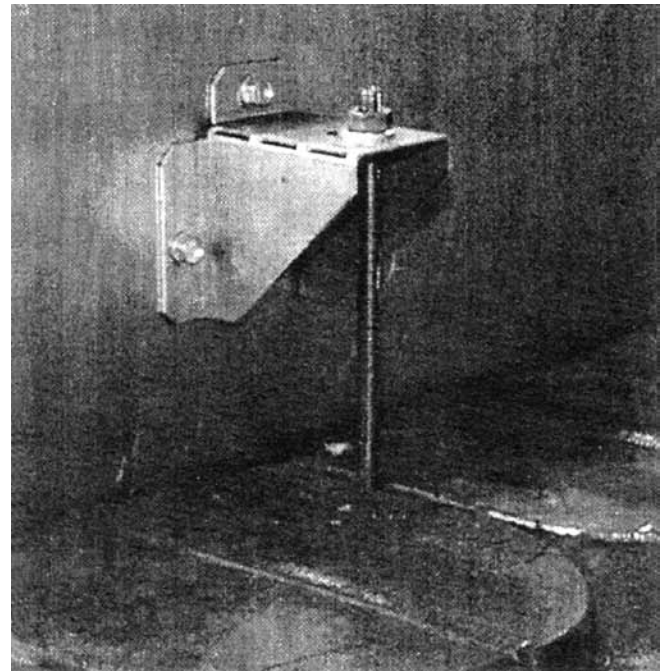

Figure 18: Right Side Canopy Intermediate Bracket
- d. Secure canopy right side bracket(s) with 1/4 - 20 x 5" lg. carriage bolts. Insert head of carriage bolt between canopy body and casting. Slide carriage bolt into slot provided between castings. Lower carriage bolt until threaded end will pass through hole in bracket. Secure canopy with 1/4" flat washers, lock washers and brass nuts. See Figure 18.